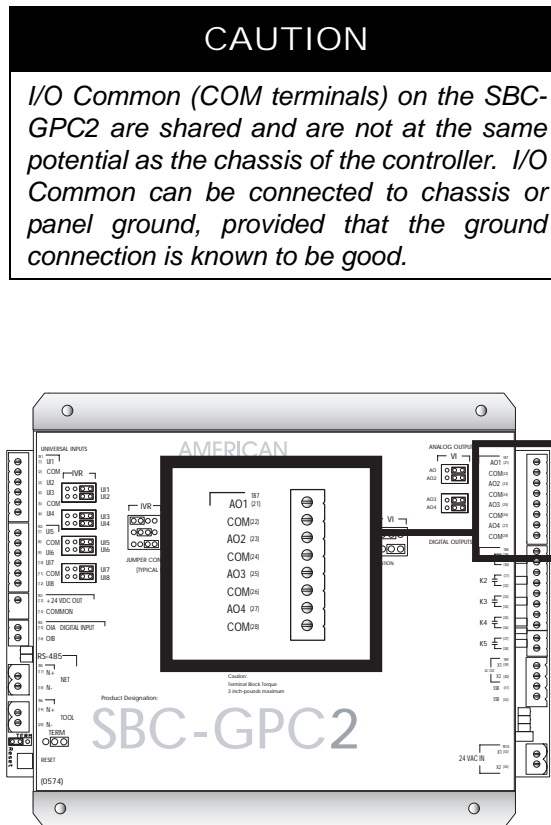

Figure 2-15: Location of the Analog Outputs
The SBC-GPC2 has four (4) analog output channels. Outputs are connected to the NB-GPC2 via terminal blocks TB7. Each output has a common terminal associated with it. The common terminal provides a ground connection for the output. The analog outputs on the NB-GPC2 are shown in Figure 2-15.